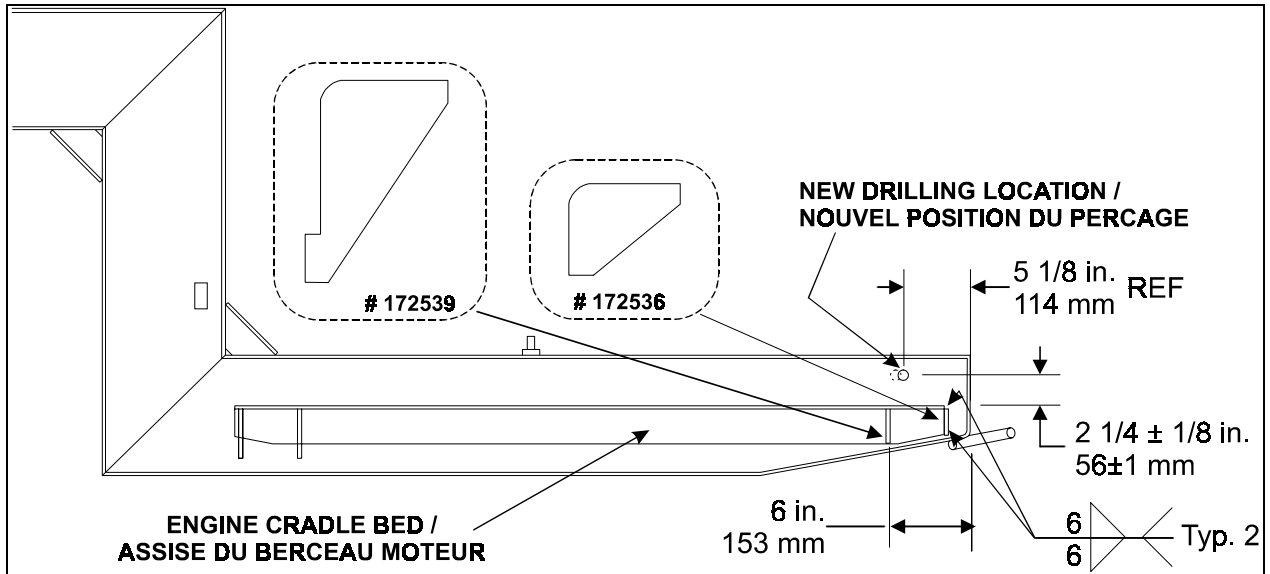
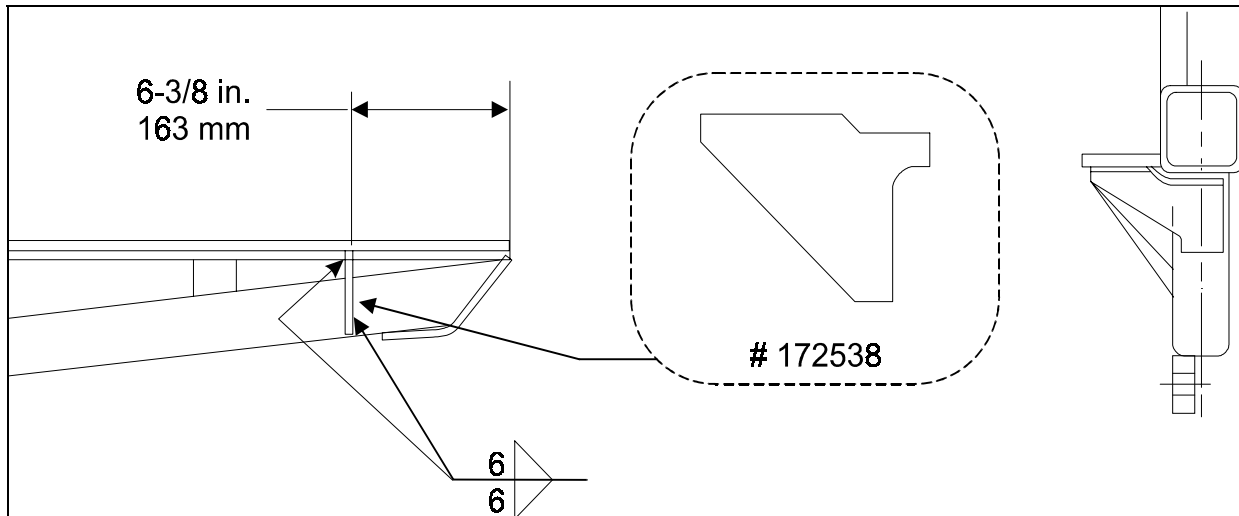

FIGURE 2 : WELDING REINFORCEMENT BRACKETS ON XL-40, XL-45E, XLII-40 AND XLII-45E ENGINE CRADLE BED (SAME FOR BOTH SIDES)
FIGURE 4 : WELDING OF REINFORCEMENT BRACKETS ON H3-45 VIP ENGINE CRADLE BED (SAME FOR BOTH SIDES)
14. Weld the reinforcement brackets to the frame (does not apply to XL-45 and XLII-45 vehicles). Grind to bare metal all surfaces to be welded. Follow the welding precautions described in the Maintenance Manual, section 1, under "Welding". For H3-45 VIP vehicles, refer to figure 4. For XL-40, XL-45E, XLII-40 et XLII-45E, weld the reinforcement bracket #172536 at the extremity of the engine cradle beds as per figures 2 & 3. Refer to figures 2 & 3 for the positioning of reinforcement bracket #172539.
For the same vehicles (XL-40, XL-45E, XLII-40 et XLII-45E), it is necessary to relocate the drilling in the vertical wall of the rear frame rails. To do so, fill the existing holes with welding and drill a 11/16" (17mm) diameter hole as per figure 2.